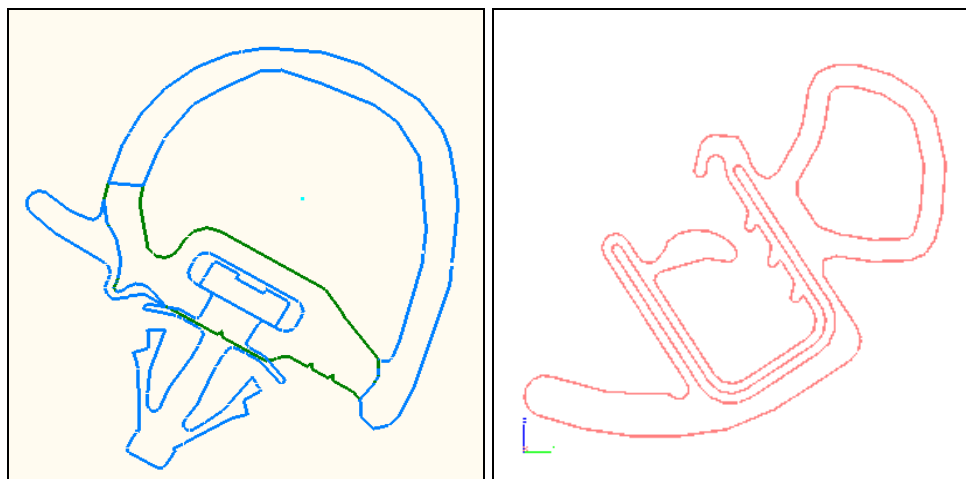

Figure 1: Example profiles of a primary (left) and secondary (right) weatherstrip
- Before beginning any sample preparation, define the areas of interest on the weatherstrip with the customer. This should include areas along the length of the weatherstrip as an entire part as well as areas along the weatherstrip profile. Figure 1 provides examples of typical weatherstrip profiles.